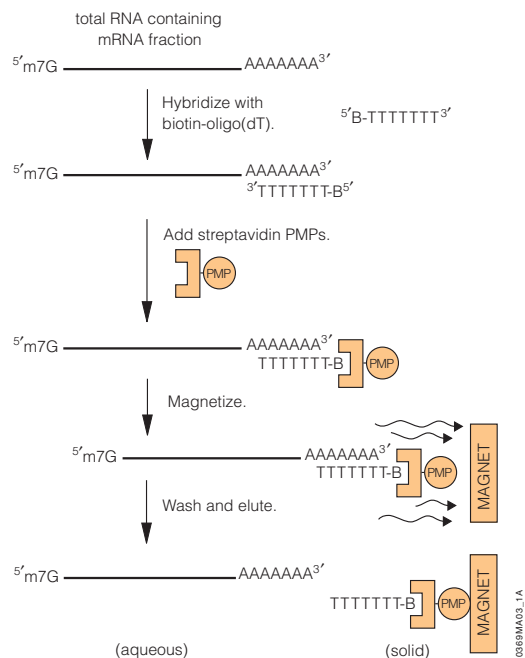

Figure 1. Schematic diagram of the PolyATtract® mRNA isolation procedure.
The systems use a biotinylated oligo(dT) primer to hybridize at high efficiency in solution to the 3' poly(A) region present in most mature eukaryotic mRNA species. The hybrids are captured and washed at high stringency using streptavidin coupled to paramagnetic particles and a magnetic separation stand (Figure 1). The mRNA is eluted from the solid phase by the simple addition of ribonuclease-free deionized water. This procedure yields an essentially pure fraction of mature mRNA after only a single round of magnetic separation.